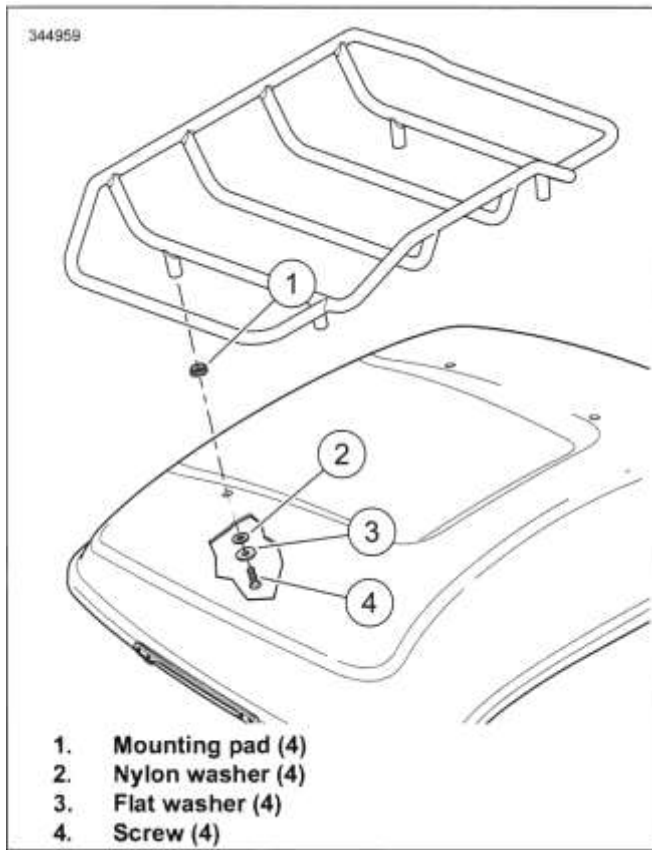

Figure 3-187. Luggage Rack
1. See Figure 3-187. Hold luggage rack while removing screws (4), nylon washers (2) and flat washers (3).